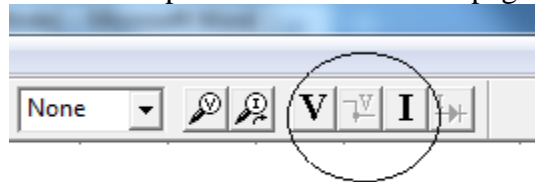
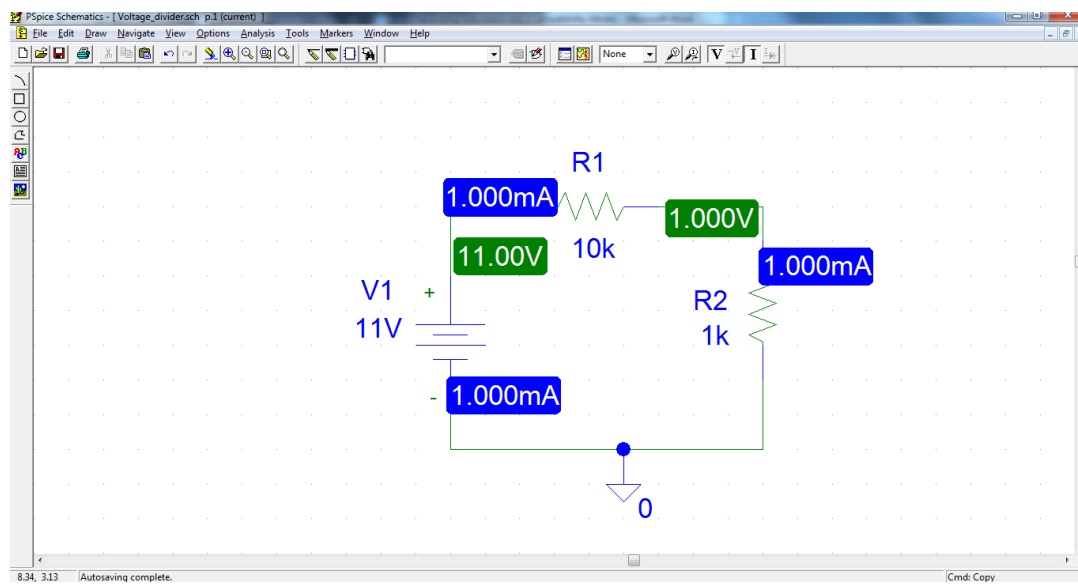

Fig.20. Enabling voltage and current display on the schematic
Fig.21. The circuit DC voltages and the DC currents after the simulation
By selecting *Enable Bias Voltage Display (V)* and *Enable Bias Current Display (I)* buttons (Fig.20) in Pspice Schematics, the voltages and the currents are represented on the circuit page (Fig.21).